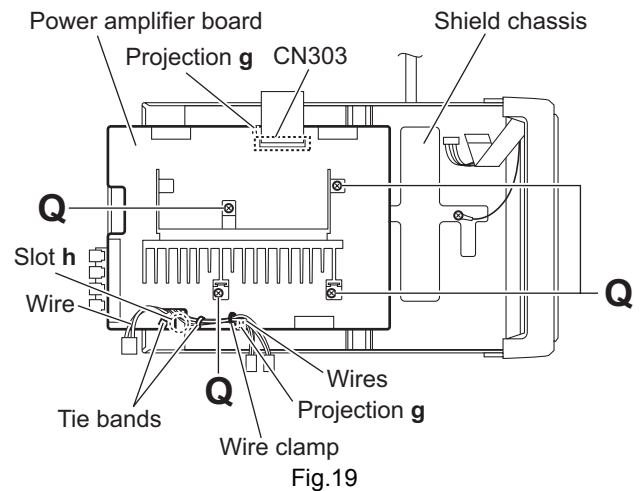

Fig.19
3.1.10 Removing the power amplifier board (See Fig.19)